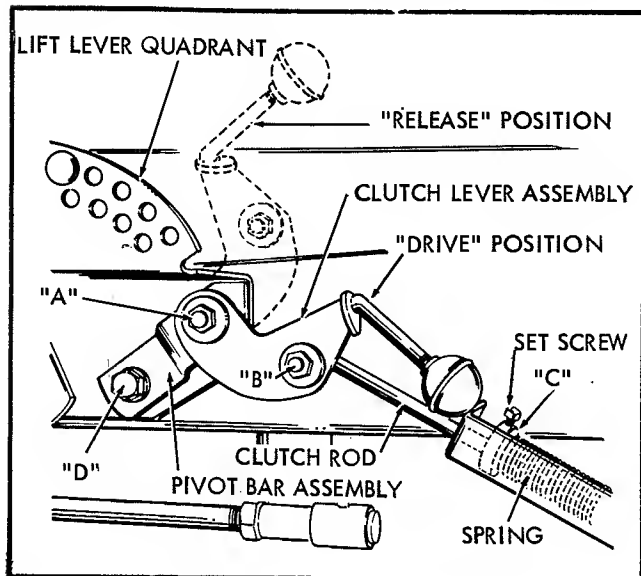

Fig. 4
4. Remove hex cap screw "D" from frame of tractor and mount bracket in place on lift lever quadrant. See Figure 4. Position the pivot bar assembly flush against bottom of lift quadrant and re-install hex cap screw and tighten securely. Check alignment of drive pulley on bevel gear shaft, driven pulley of power take-off, and idler pulley, and adjust driving pulley if necessary.
Operation of the power take-off is controlled by movement of the clutch lever assembly. See Figure 4. When the clutch lever is in the forward raised position, the clutch rod releases the tension holding the idler pulley against the drive belt, and power will not be transmitted to the driven pulley of the power take-off assembly. When the clutch lever is in the back, depressed position, the clutch rod applies tension to the idler pulley and as the idler pulley takes-up the slack in the drive belt, power is transmitted from the drive pulley on bevel gear box shaft to the driven pulley of the power take-off. Figure 4 shows clutch lever in drive position.
At points "A" and "B" of Figure 4, check tightness of hex nut to be sure that clutch lever assembly and clutch rod are free to pivot without binding.
Place clutch lever in "drive" position and observe clearance between collar "C" (Figure 4) and end of bracket. When implement is attached to tractor, this clearance should normally be approximately 3/4"; at this setting the